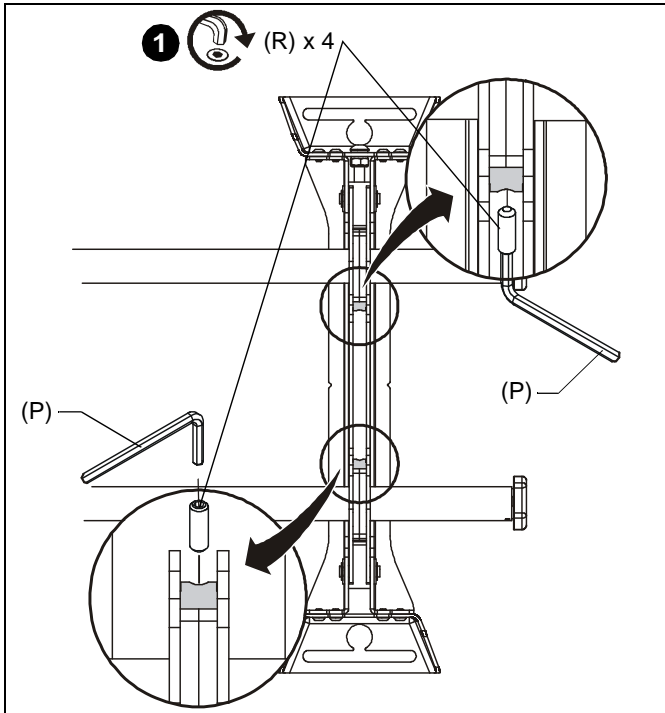

**Figure 9**
10. Hang wall mount back onto top bracket and install two 5/16 x 2 1/2" hex head cap screws (U) through lower mounting holes on mount and into concrete anchors. (See Figure 9)